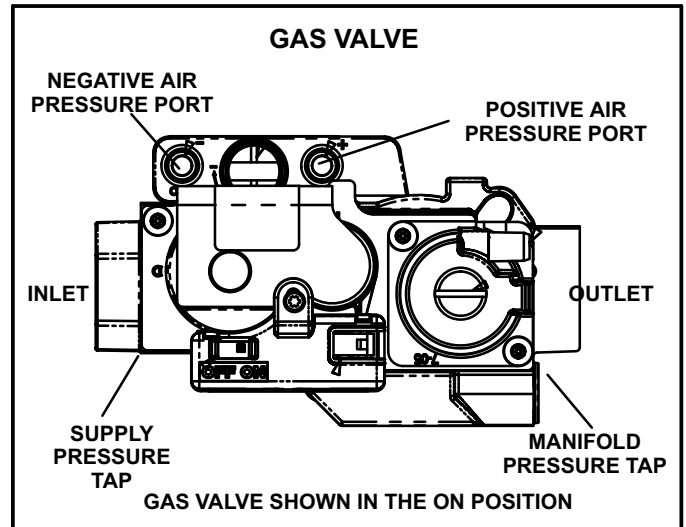

FIGURE 44
Gas Valve Operation (Figure 44)
- 6 - Move gas valve switch to **OFF**. See figure 44.
- 8 - Move gas valve switch to **ON**. See figure 44.